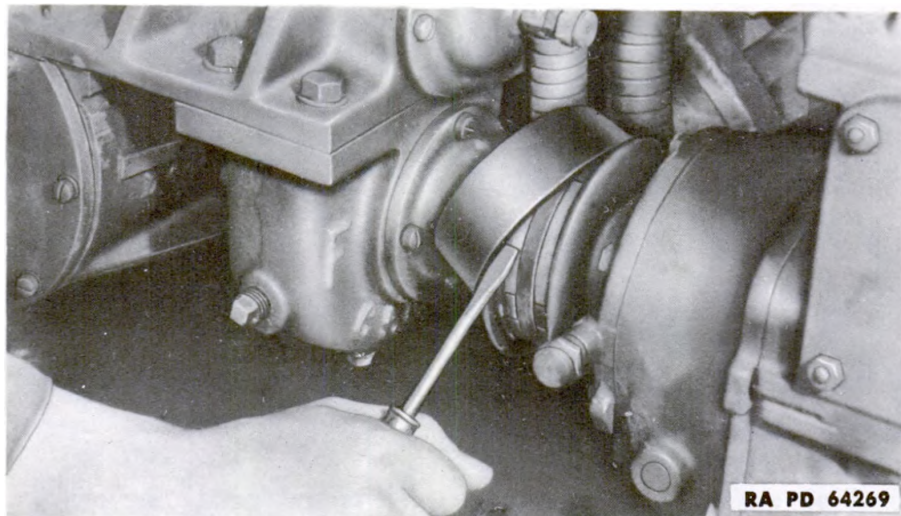

Figure 199 – Removing Rubber Seal From Oil Gear Coupling
(10) When removing an azimuth oil gear, disconnect the rod from the lower end of the clutch shaft lever.
(11) If the coupling is frozen to the spline shaft of the gun drive mechanism, then remove rubber seal from oil gear coupling by using small screwdriver (fig. 199).